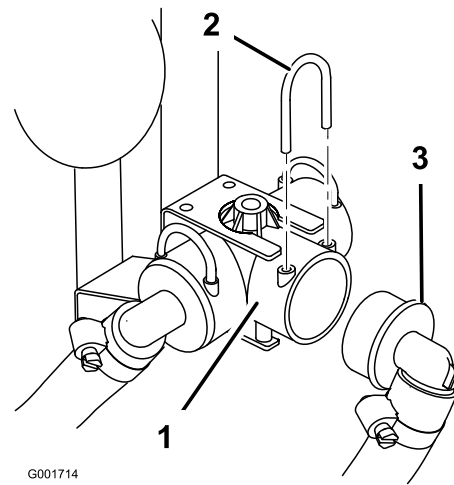

Figure 7
1. Locate the valve assembly on the right side of the tank, and remove the retaining fork to disconnect the boom supply hose from the supply tee (Figure 7).